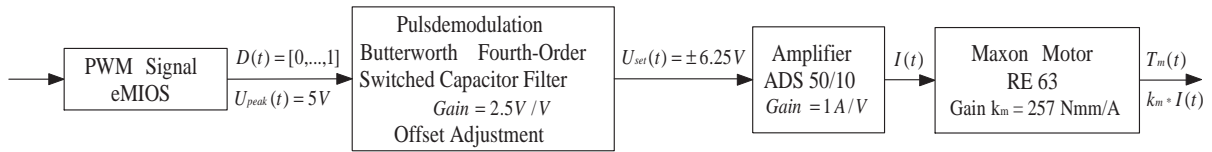

Figure 4: Total gain of the setup:  $dM/dD = 5 \text{ V} * 2.5 \text{ V/V} * 1 \text{ A/V} * 257 \text{ Nmm/A} = 3212.5 \text{ Nmm}$
The PWM signal switches between zero and 5 V. The filter unit that demodulates the digital signal to an analog one has a gain of 2.5 V/V. This module not only amplifies the signal, it also provides an offset adjustment. The amplifier gain is 1 A/V and the motor gain 257 Nmm/A, see Figure 4. The motor must be enabled to work, to do this the GPIO 205 pin is enabled by the `init_ECS()` function.
8. Set the torque limits and create the function **outputTorque** within *motor.c*. Convert between a virtual torque value and a PWM duty cycle. Refer to Figure 4 and the data sheet of the motor (inside red or black folder on your desk) to answer the questions below. We use the motor with the part number 353301.